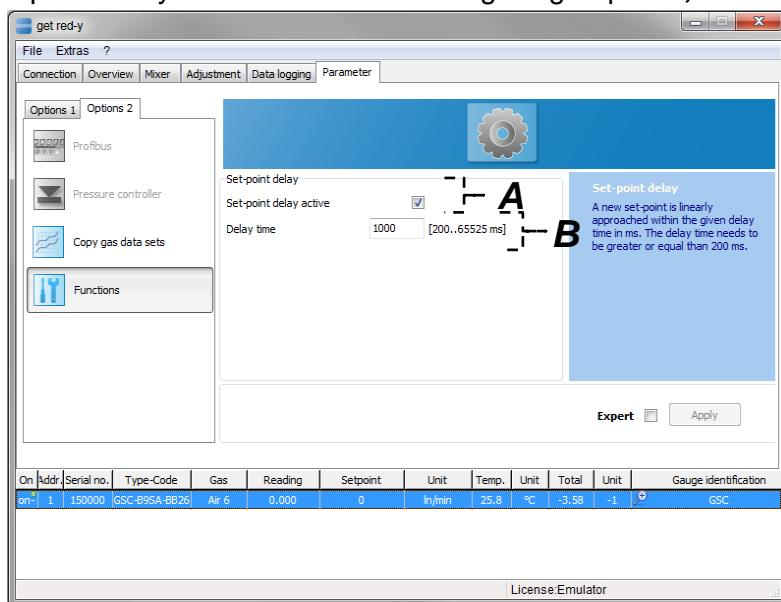

Figure 37: Setting the set-point delay time
- B. **Delay time:** You can set the delay time here, i.e. how long the linear increase to the new set point lasts (see Figure 37). The delay time has to range between 200 and 65535 ms.